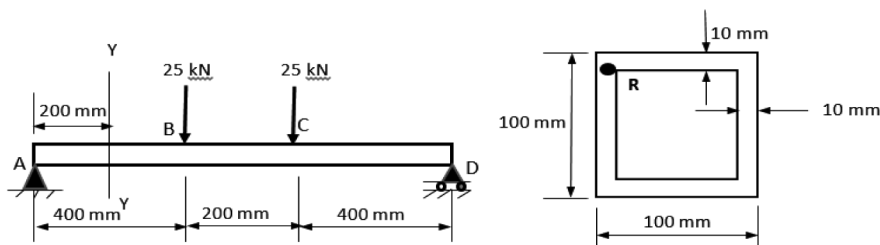

Figure Q3
- b) Considering section Y-Y of the beam and loading shown in Figure Q3, determine